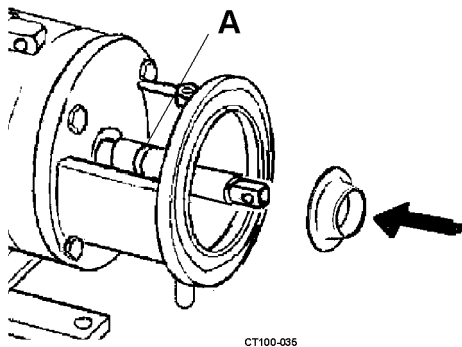

Figure 24 - Installing Deflector
6. Slide the deflector (large diameter end first) onto the shaft until it seats in the shaft groove. See Figure 24, item A.